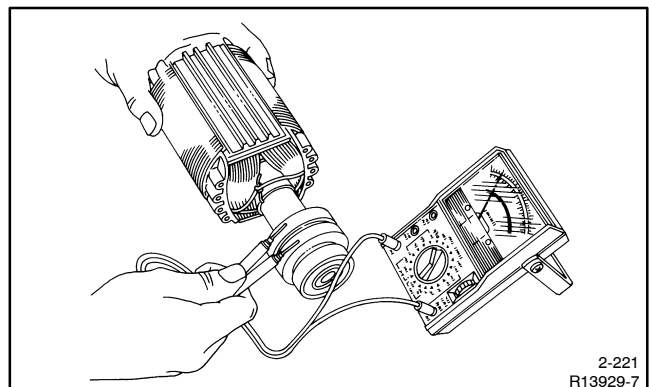

Figure 6-9 Rotor Resistance Check
- b. Measure the rotor resistance (ohms) between the two slip rings; see Figure 6-9. See Section 1.6 for rotor resistance readings.